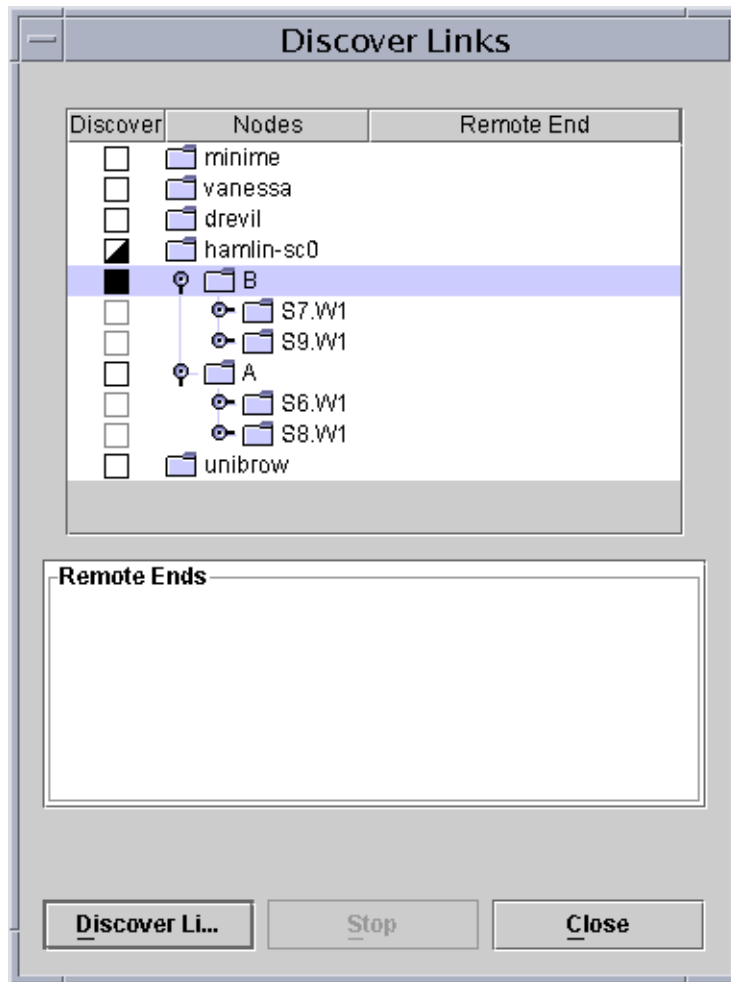

FIGURE 8-2 Discover Links Dialog Showing an Expanded Chassis Folder
- To acquire link status at the domain level, expand the chassis folder containing the domain of interest. See FIGURE 8-2.